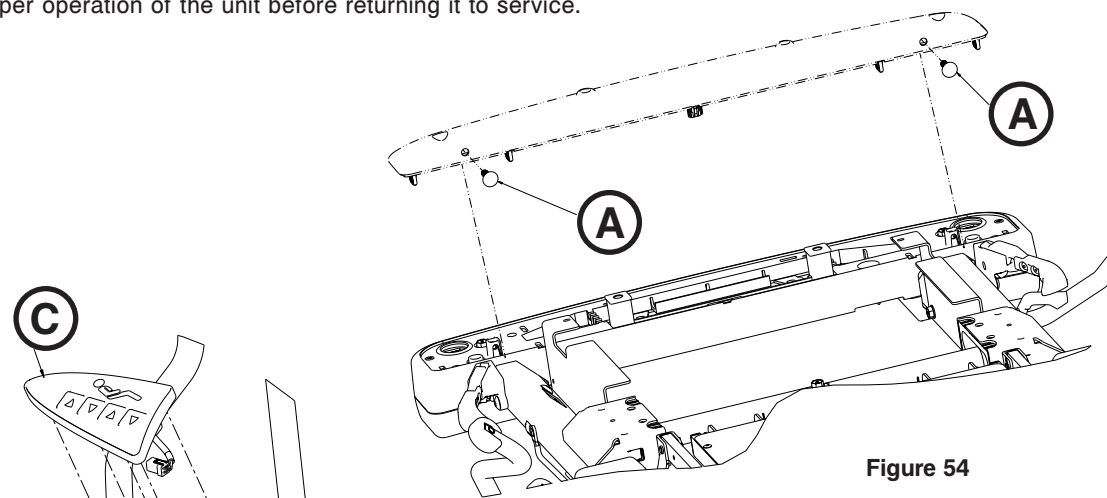

Figure 54
3. Using a slotted screwdriver, pry the two panel fasteners (A) out and set aside (Figure 54).